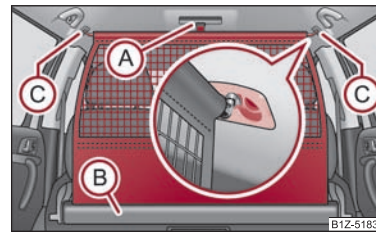

Fig. 63 Pull out the net partition
- Pull the net partition net at the plate (A) out of the housing (B) ⇒ fig. 63.
- Insert the cross rod into the mount (C) first on the one side and push the cross rod forwards.
- In the same way, fix the cross rod to the other side of the vehicle, mount (C).
- Pull the cross rod back slightly, first on the one side then on the other side and take the cross rod out of the mounts (C) ⇒ fig. 63.
- **Hold** the cross rod in such a way that the net partition can roll up slowly and without damage into housing (B).